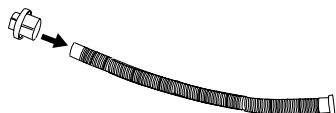
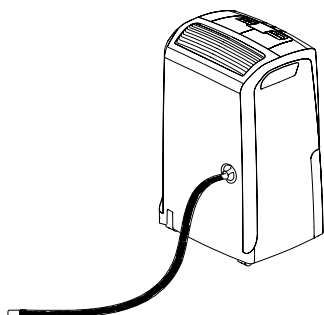

fig.3
fig.4
2. Insert the cap on the condensate drain hose (8) as far as it will go (fig. 3), then screw the cap back onto the spout (fig. 4).